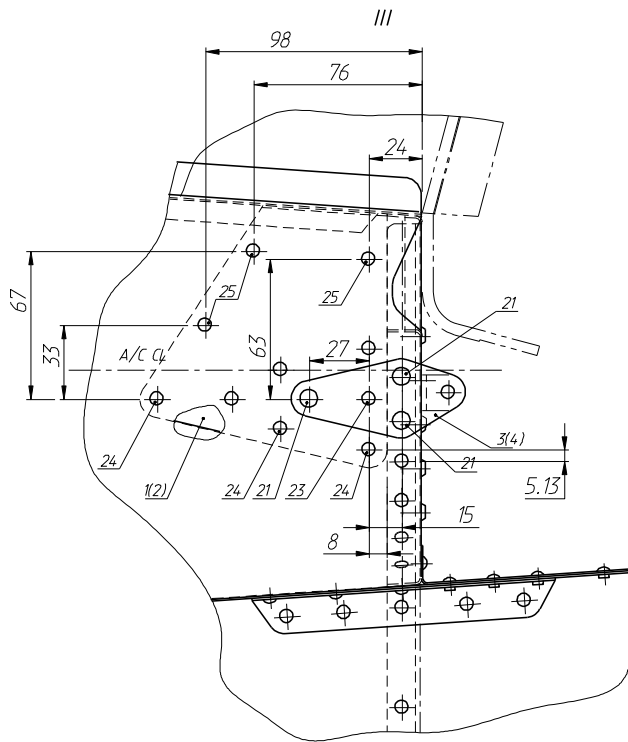

Fig. 11.
1.1. Mark and drill Ø3 mm hole for the rivet No. 23 in the stabilizer attachment plate No.3(4) (see fig. 11).
2.2. Remove the stabilizer attachment plate (see fig. 11 No.3(4)) by drilling out the rivets No.21 – 6 pcs. with Ø4 mm drill bit.
- 3.7. Mark and drill the $\varnothing 3.1$ mm holes for the rivets No.25 (see fig. 11). Insert Clico fasteners.
- 3.11. Fix with Clico fasteners the doubler No.1(2) inside the tail boom and stabilizer attachment plate No.3(4) (see fig. 11), set percussion rivets No.21 – 6 pcs., No.23 – 2 pcs., No.24 – 12 pcs., No.25 – 6 pcs.